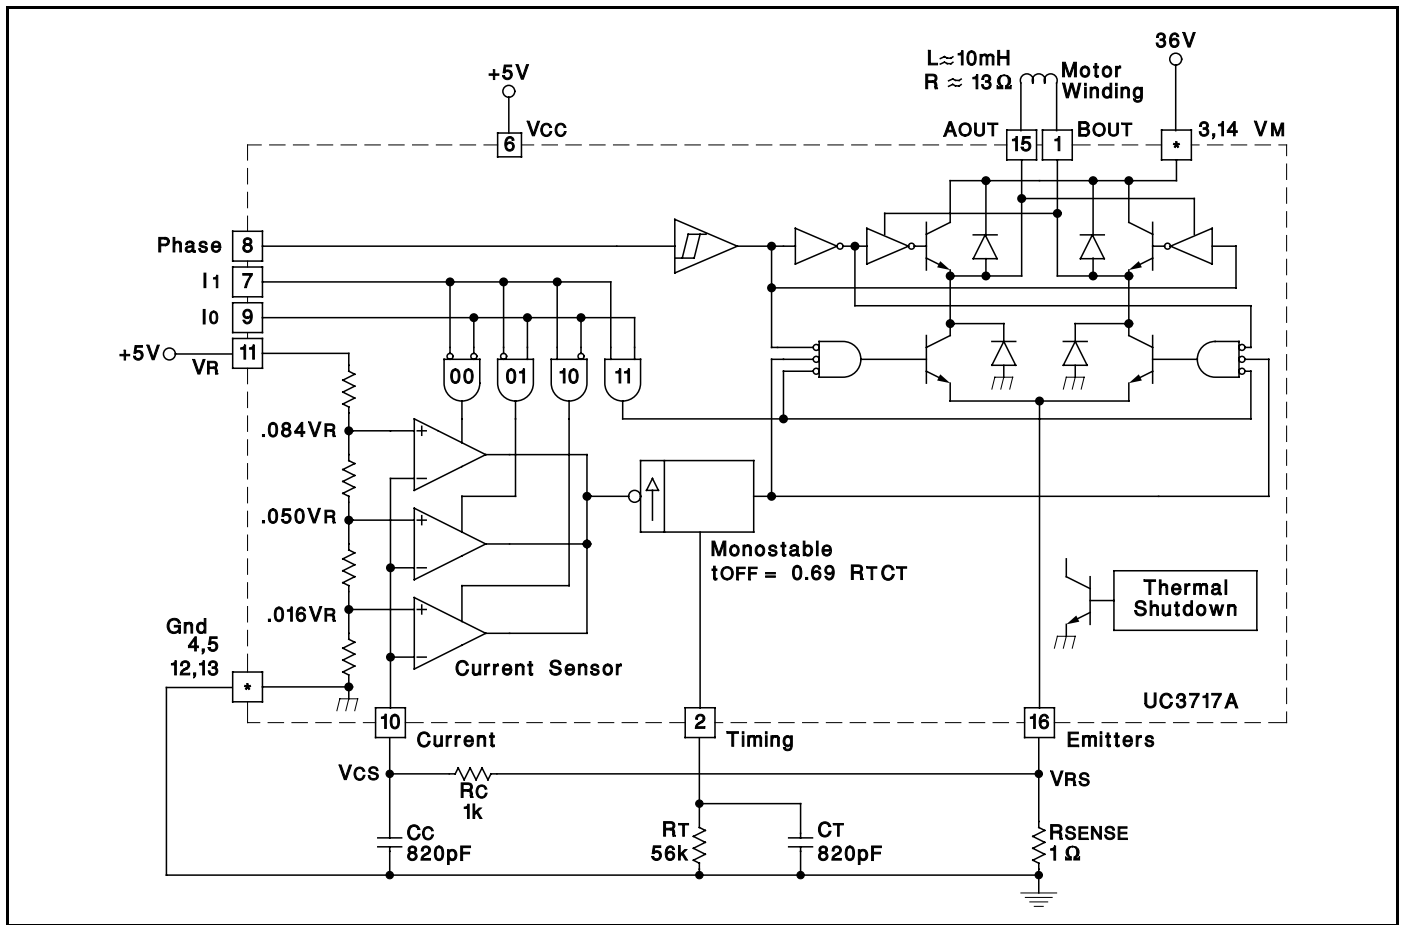

Figure 6. UC3717A Test Circuit
**ELECTRICAL CHARACTERISTICS** (Refer to the test circuit, Figure 6.  $V_m = 36V$ ,  $V_{CC} = 5V$ ,  $V_R = 5V$ ,  $T_A = 0^\circ C$  to  $70^\circ C$ , unless otherwise stated,  $T_A = T_J$ .)
(Refer to the test circuit, Figure 6.  $V_M = 36V$ ,  $V_{CC} = 5V$ ,  $V_R = 5V$ ,  $T_A = 0^\circ C$  to  $70^\circ C$ , unless otherwise stated,  $T_A = T_J$ .)